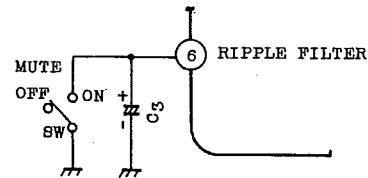

Fig.2
Audio muting can be accomplished by connecting PIN ⑥ (ripple filter) to GND as shown in Fig.2.